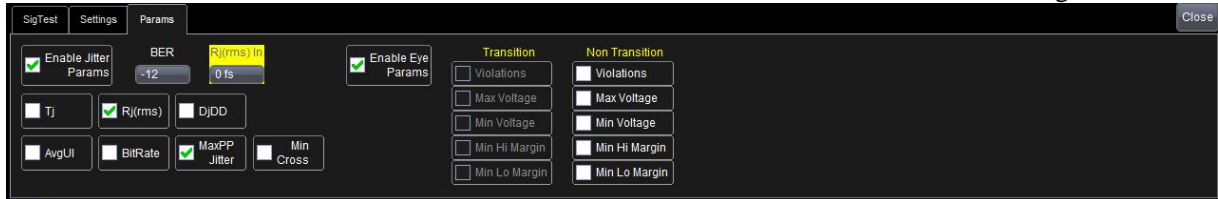

Figure 6
- The rest of the selections should be default and shown in Figure 6: